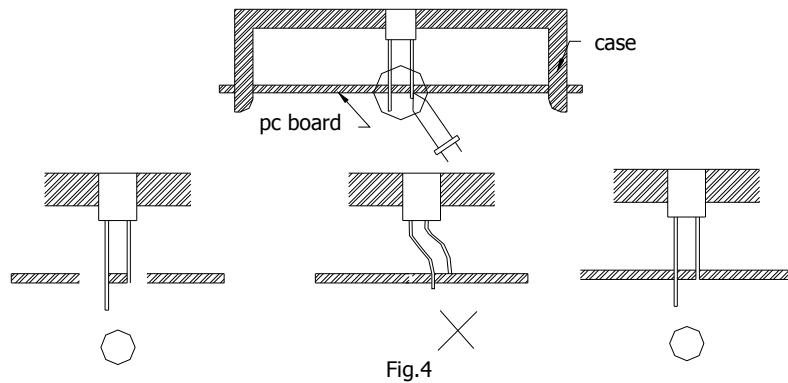

Fig.4
4) When mounting the LED by using a case, as shown Fig.4, ensure that the mounting holds on the PC board match the pitch of the leads correctly-tolerance of dimensions of the respective components including the LED should be taken into account especially when designing the case, PC board, etc. to prevent pitch misalignment between the leads and board holes, the diameter of the board holes should be slightly larger than the size of the lead. Alternatively, the shape of the holes should be made oval. (See Fig.4)